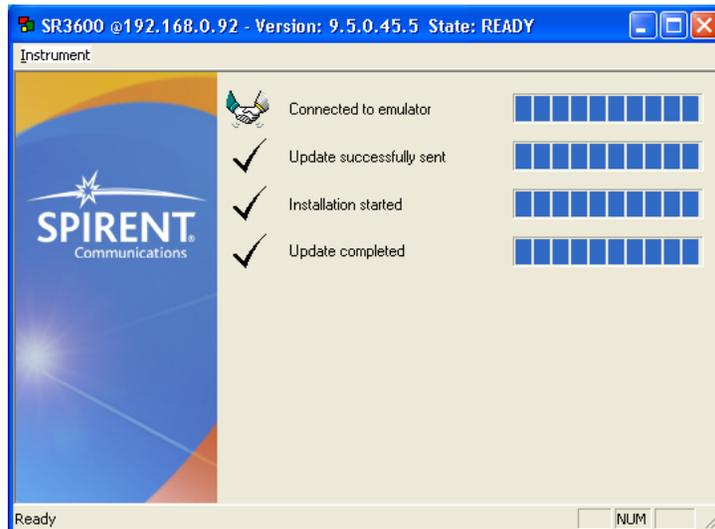

Figure 2-18: Update Status
- Wait for the update to complete (this will take several minutes), as shown in Figure 2-18.